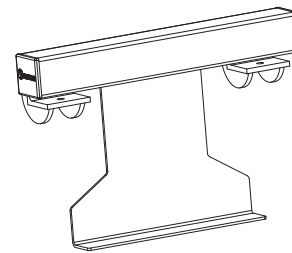
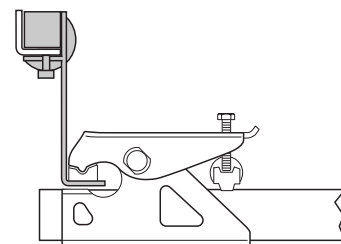

Fig. 22
Fig. 23
- For the Eriba Touring Troll chassis, the Eriba Touring Troll adapter kit is mandatory (Fig. 22) (Fig. 23).